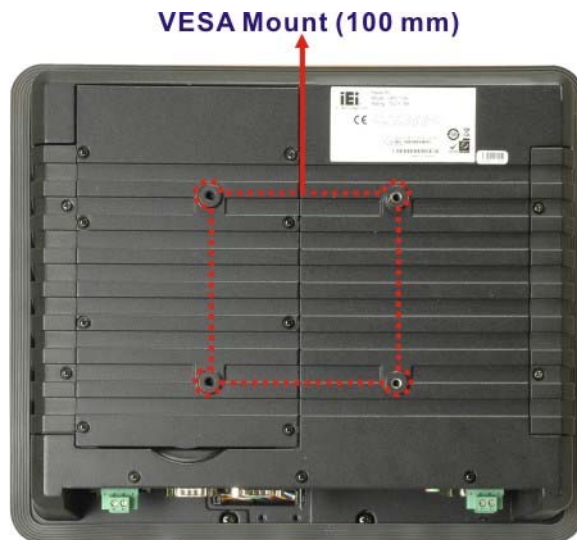

Figure 4-20: Arm Mounting Retention Screw Holes
Step 3: Align the retention screw holes on the mounting arm interface with those in the flat panel PC. The flat panel PC arm mount retention screw holes are shown in **Figure 4-20**.